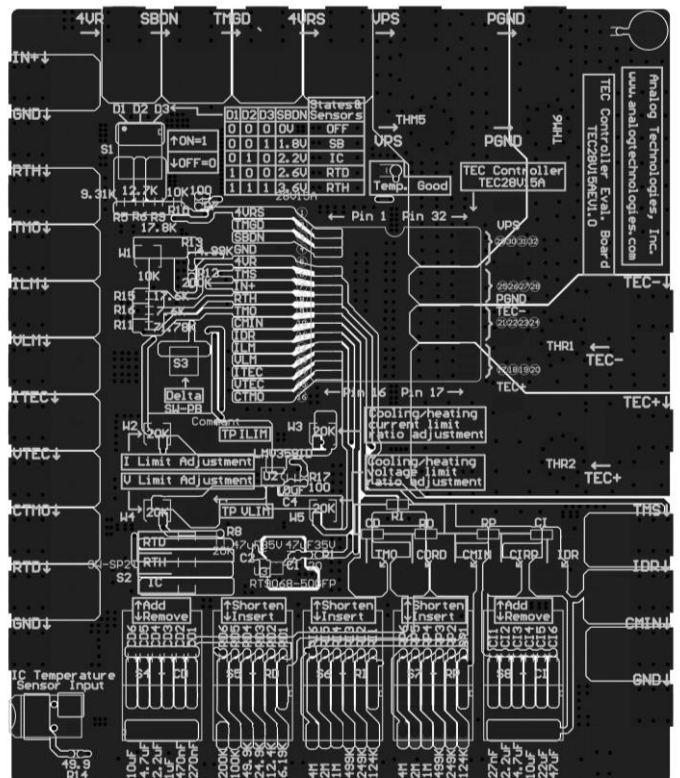
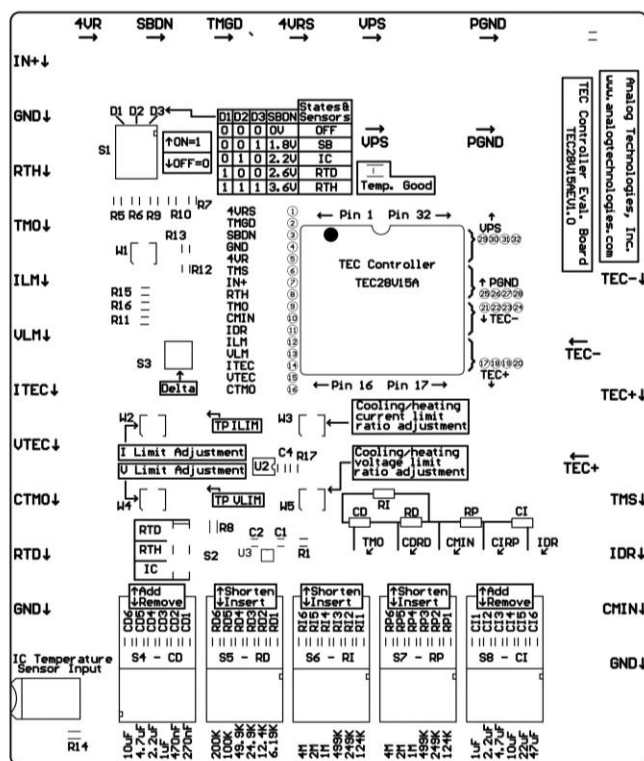

Figure 2. Top Silkscreen Layer with Other Top Layers
Figure 6. Top Silkscreen
The silkscreen layer of the evaluation board is shown in Figure 2 with other top layers, including top silkscreen, top copper, top solder mask, and multilayer (vias). Figure 6 only shows the image of top silkscreen layer. There is no component in the bottom side of the board, so that there is no bottom silkscreen layer image.
There are 3 terminal blocks also located on the left, top and the right side of the board, their connectors are for the same nodes of the solder pads. See the silkscreen image in Figure 6.
2. When using RTH sample hold mode, connect R15 to pin 4VRS. Turn the S2 switch to RTH, and then turn S1 to RTH. The SBDN voltage is 3.6V. See Figure 6.
- 3. After tuning, the values of the capacitors for C_D and C_I can be read off the capacitor selection switches. The values of the resistors, R_I , R_d and R_P , can be measured by an Ohmmeter by connecting to the resistor pins. As seen in the photo of Figure 6, R_I can be read off between TMS and CMIN test points; R_D can be read off between CMIN and CDRD test points; R_P can be read off between CMIN and